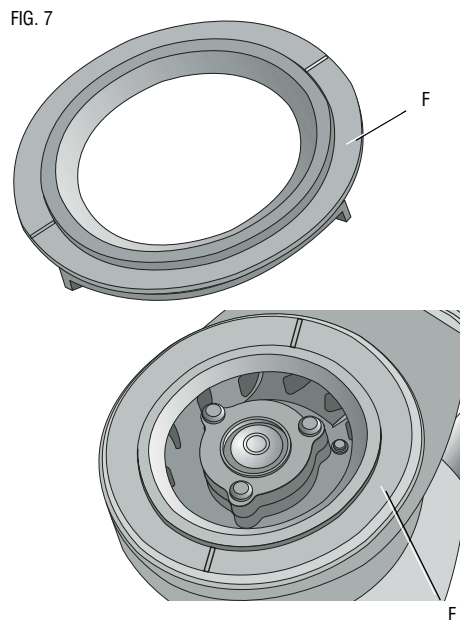

FIG. 8
Brush Replacement (Fig. 8, 9)
1. Remove the three screws from the top cap and lift off top cap, as shown in Figure 8.
2. Pull the brush spring (I) back (be careful not to pull completely off) and slide out the old brush.
3. Pull the brush wire (J) which is connected to the brush, out of the motor field (K).